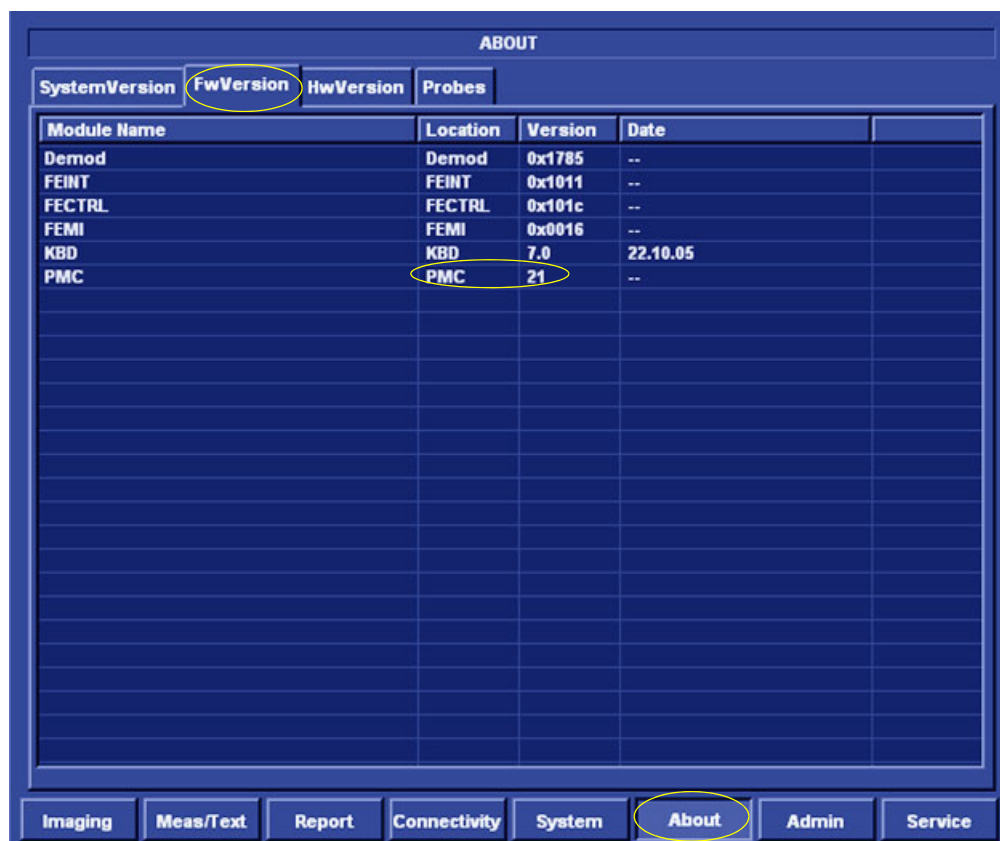

Figure 8-133 Verifying PMC Version
- 4) Press the **About** button and activate the **FwVersion** tab; verify that PMC version is 19 or above, as shown in the example in Figure 8-133 below.